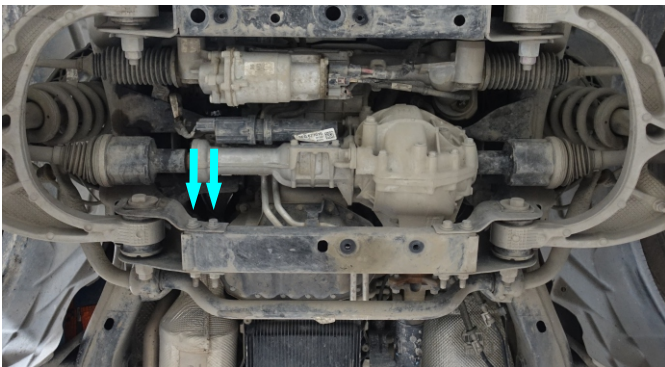

Fig. 3
3. Remove two factory bolts from the frame on the right side of the vehicle (fig.3).